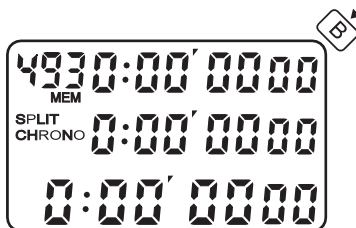
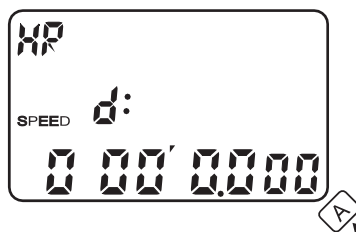
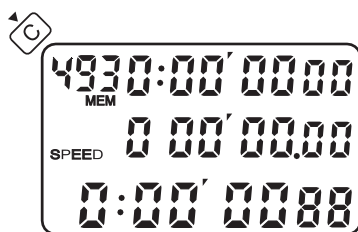

Fig. 7
Fig. 14
Fig. 15
- Press A to reset and be ready for the next race, as shown in Fig. 7. The counter at the top left corner displays the memory left for further races. Further races can be recorded by pressing B and A buttons as above.
- In the CHRONO MODE before the start of a race, such as in Fig.7, push and hold A for 2 seconds will go to the SPEED SET mode as is shown in Fig.14. The first digit in the lowest row is flashing to indicate setting of the thousandth digit of distance. Push B to set and A to select the next digits. The highest setting for distance is 9999.999. After the digits are set press A again to set the TIME unit with the top left corner HR flashing. Use B to set to HR (for /hour), MIN (for /minute) or SEC (for /second). When the distance and time unit are set, press C button to return to the SPEED MODE (Fig. 15). (Pushing C button anytime during the setting will return to the SPEED mode).